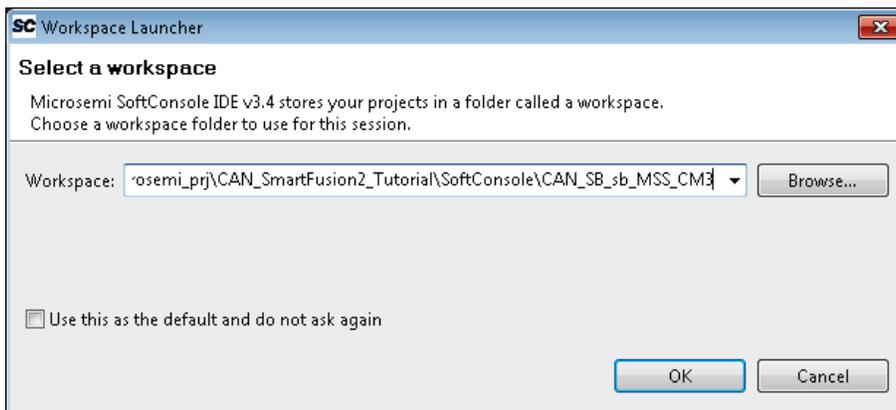

Figure 20 • Specify the SoftConsole Workspace Location
- Browse and select the Workspace of Softconsole folder where the Libero project is located, as shown in Figure 20.